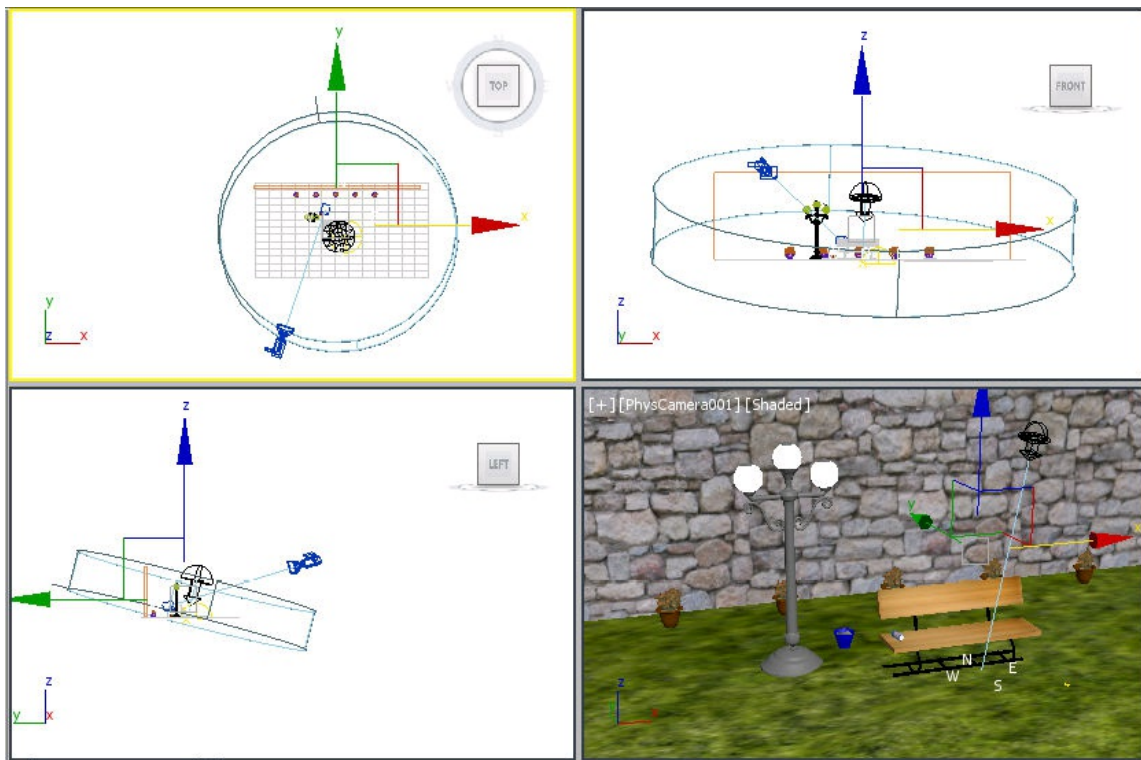

Figure 13-84 The Daylight cone adjusted
5. Adjust the value in the **Falloff/Field** spinner so that the scene is covered inside the cone, refer to Figure 13-84.